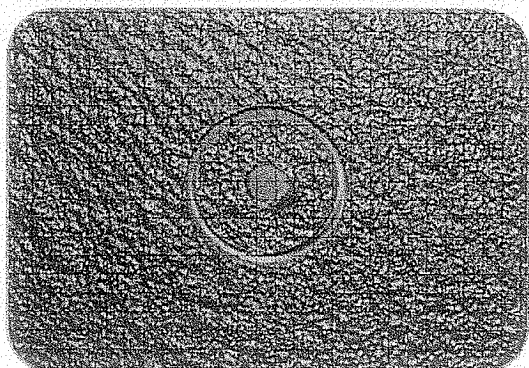

Figure 3 - Scored TriArmor®
- a. For connections 3" or less, score the TriArmor® Corrosion Protection System with a hole saw as shown in Figure 3.